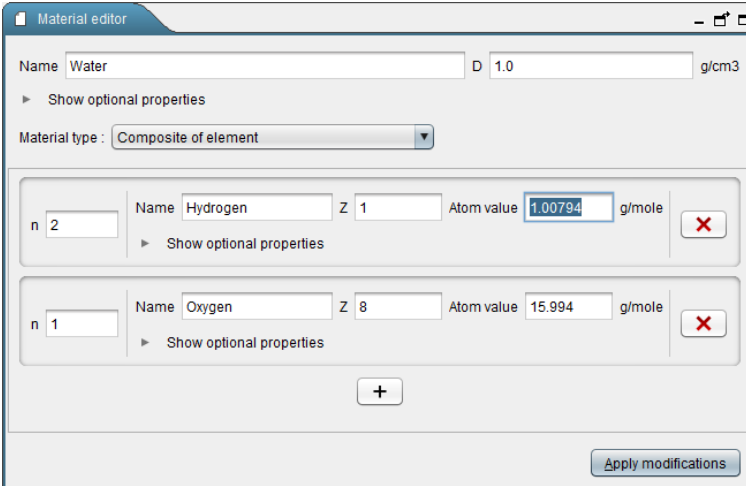

Figure 38: Material editor for a composition of element (here water)
Figure 38 shows the material editor for a composition of elements. These elements are similar to atom shown previously but can have additional meta-data attached to them using the “*Show optional properties*” button. The number of each element is chosen on the left with the “*n*” field. It is easy to add and remove elements just by clicking on the (+) button and (X) respectively.